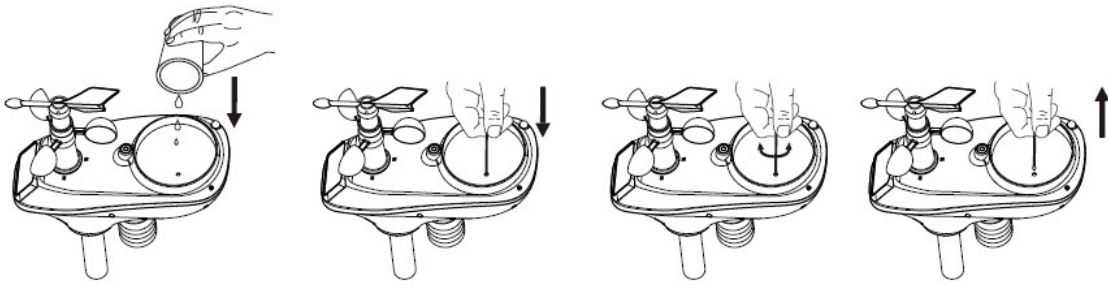

Figure 42
1. Clean the rain gauge once every 3 months as follows. Reference Figure 42.